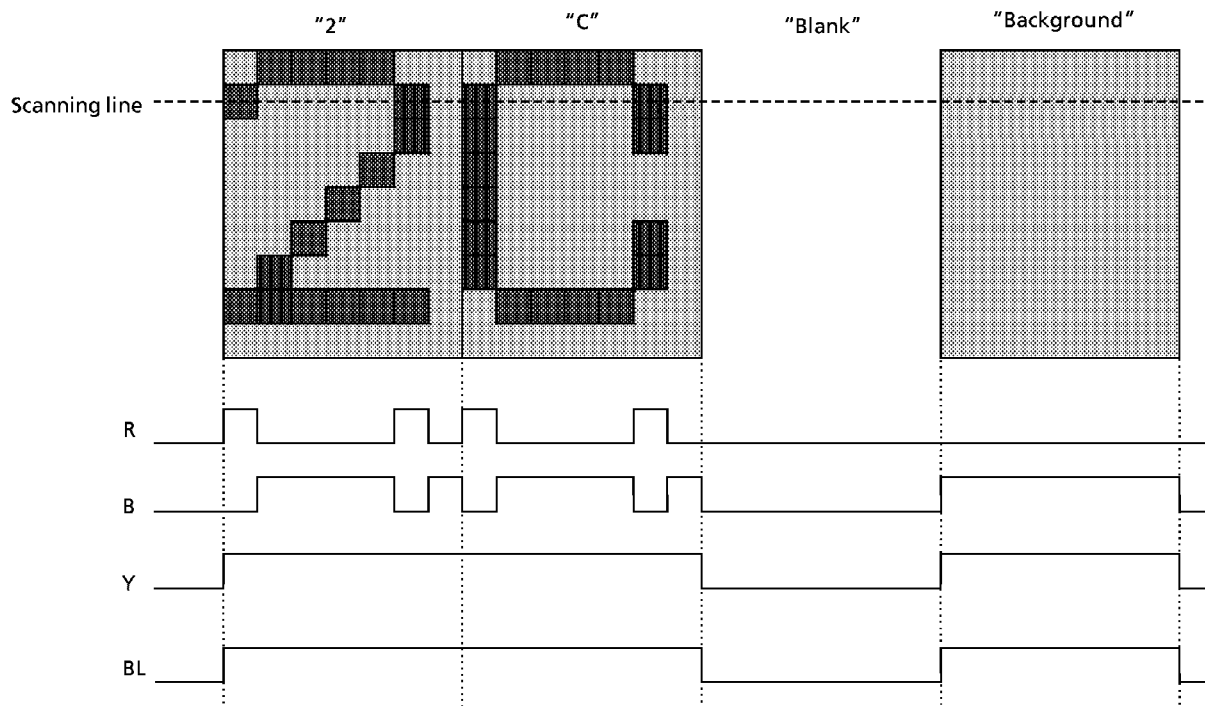
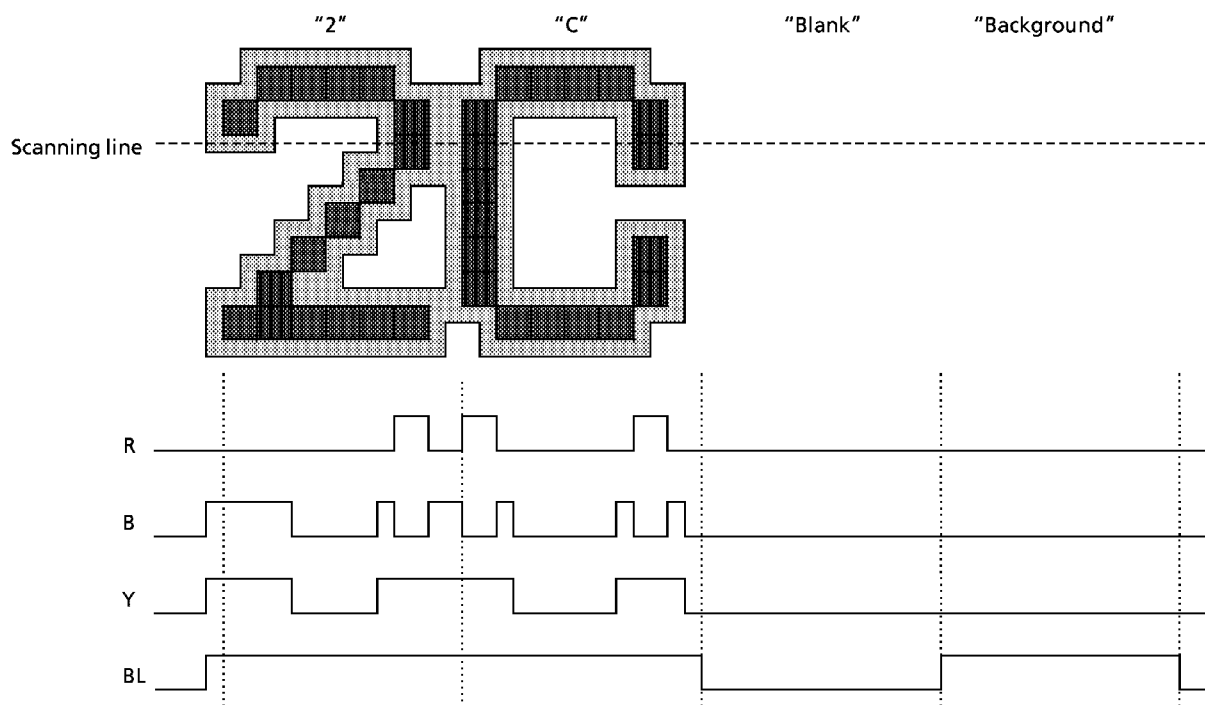

Figure 3-15. Example of OSD Display and Its Wave Form (1)
Figure 3-16. Example of OSD Display and Its Wave Form (2)
Figure 3-15 shows display example (1). The conditions for this example are as follows:
- ① Display data: 2, C, blank data (character code 7F_H), background (character code 7E_H).
- ② Color data: RDT = 1, BDT = 0, GDT = 0.
- ③ Background color data: BRDT = 0, BBDT = 1, BGDT = 0.
- ④ Fringing and smoothing disabled.
- ⑤ This screen display example is controlled by the R, B and BL signals.
- Figure 3-16 shows display example (2). The conditions for this example are as follows:
- ① Display data: 2, C, blank data (character code 7FH), background (character code 7EH).
- ④ Fringing enabled and smoothing disabled.
- ⑤ This screen display example is controlled by the R, B and Y signals.